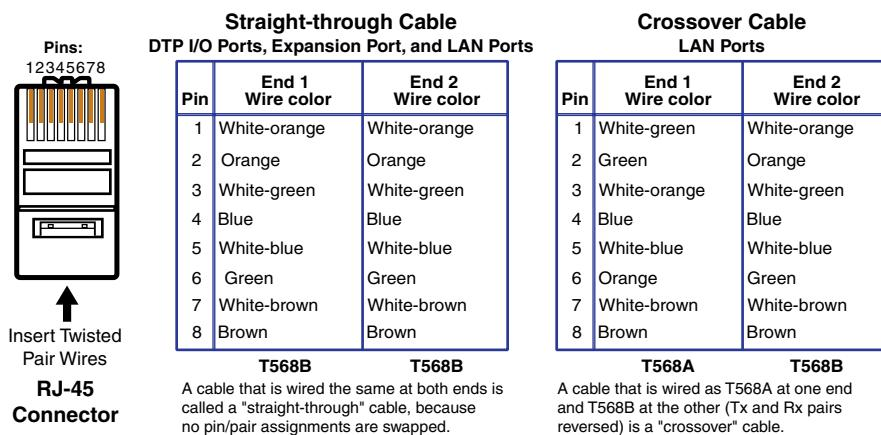

Figure 10. RJ-45 Connector and Pinout Tables
All RJ-45 ports, whether TP input and output ports, the Expansion port, and the LAN (Ethernet) ports on the switcher or IPCP control processor use twisted pair cables. It is essential that the TP cables be the correct type and that they be properly terminated with the correct pinout. The TP cable can be terminated as a patch (straight-through) cable or a crossover cable and must be properly terminated for your application (see figure 10). All these cables are terminated with RJ-45 connectors. All TP cables are limited to a length of 330 feet (100 m).
- Terminate cables with shielded connectors to the TIA/EIA T 568 B standard only (see **figure 10** on page 17).